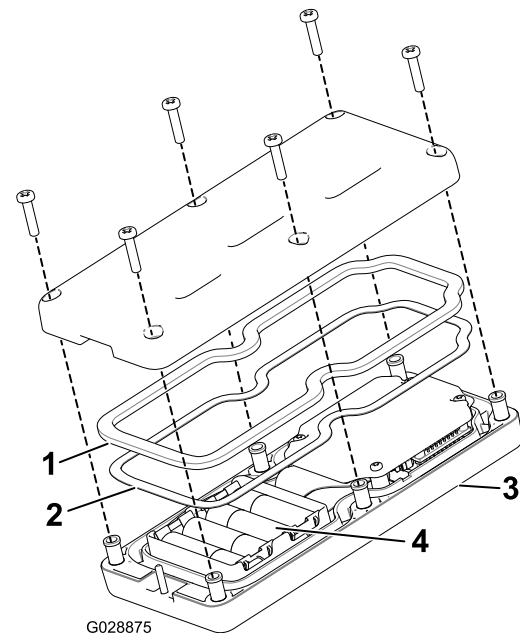

Figure 49
3. Remove the 6 screws from the back of the remote and remove the cover (Figure 49).
5. Install the batteries into the terminal cradle observing proper polarity. The cradle is embossed with polarity markings for each terminal (Figure 49).
6. If you accidentally removed the rubber seal and the steel gasket, replace them carefully into the channel in the handheld remote (Figure 49).
7. Replace the cover and secure it with the 6 screws removed previously (Figure 49) and torque them to 1.5 to 1.7 N·m (13 to 15 in-lb).